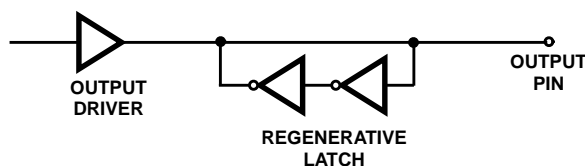

FIGURE 10. OUTPUT DRIVER AND LATCH FOR PINS AD0-AD7, A8-A15 AND IO/M
1. An important caveat that is applicable to CMOS devices in general is that unused inputs should never be left floating. This rule also applies to inputs connected to a three-state bus. The need for external pull-up resistors during three-state bus conditions is eliminated by the presence of regenerative latches on the following HS-80C85RH output pins: AD0-AD7, A8-A15, and IO/M. Figure 10 depicts an output and corresponding regenerative latch. When the output driver assumes the high impedance state, the latch holds the bus in whatever logic state (high or low) it was before the three-state condition. A transient drive current of approximately $\pm 1.0\text{mA}$ at $0.5V_{DD}$ for 10ns is required to switch the latch. Thus, CMOS device inputs connected to the bus are not allowed to float during three-state conditions.